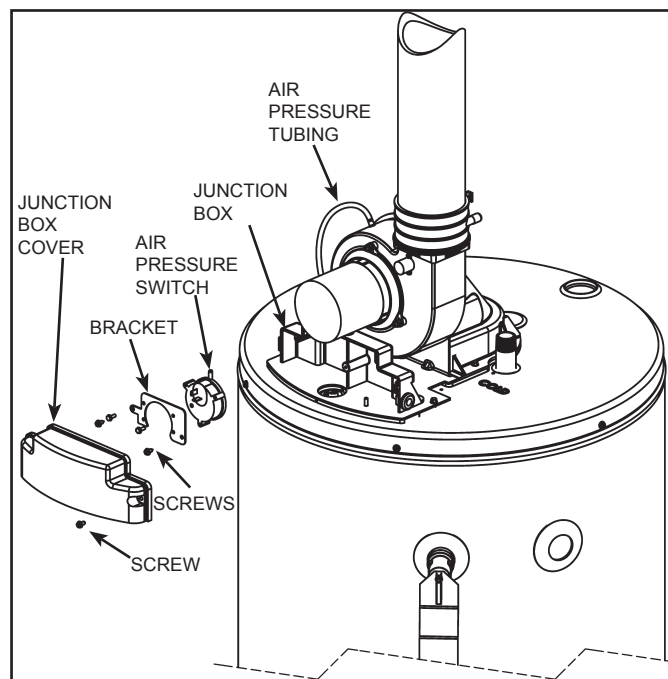

Figure 30. Removing the Pressure Switch
6. After noting the position of each electrical flag terminals, remove the two (2) electrical flag terminals from the switch by pulling outward and off the switch.
7. Using a hex head screwdriver, remove and retain the 2 screws securing the bracket to the junction box. See **Figure 30**.
8. Using a hex head screwdriver, remove and retain the 2 screws securing the pressure switch to the bracket. See **Figure 30**.
1. Using a hex head screwdriver, secure the new pressure switch to the bracket with the screws removed in step 8 above. Care should be taken to ensure the proper orientation of the bracket and pressure switch. See **Figure 30** (page 25).
2. Using a hex head hex screwdriver, secure the bracket to the junction box with the screws removed in step 7 above. See **Figure 30** (page 25).
3. Reattach the two (2) electrical flag terminals by pushing the flag terminals onto the switch. Care **MUST** be taken to ensure that each of the electrical flag terminals is in its original position.